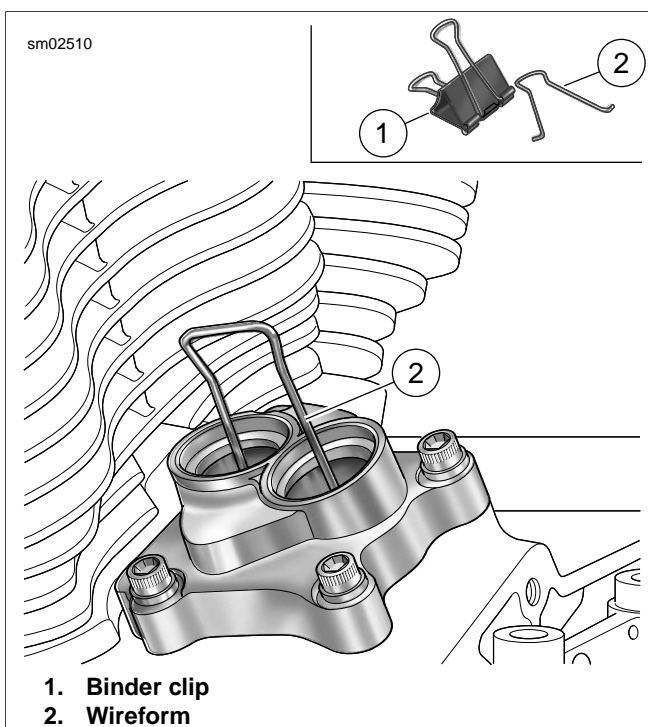

Figure 3-107. Hydraulic Lifter Holding Tool
- See Figure 3-107. Fashion lifter holding tool to prevent the hydraulic lifters from dropping into the cam compartment during cam support plate removal.
- Obtain a large binder clip (1) which is available at any office supply store. Squeeze wireforms (2) to remove from binder clip.
- Compress wireform (2) slightly and insert free ends into outer and inner lifter cover bores so that legs engage walls of both hydraulic lifter sockets.